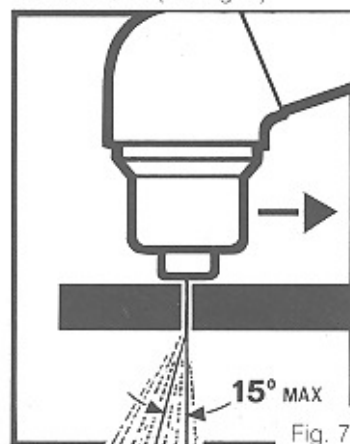
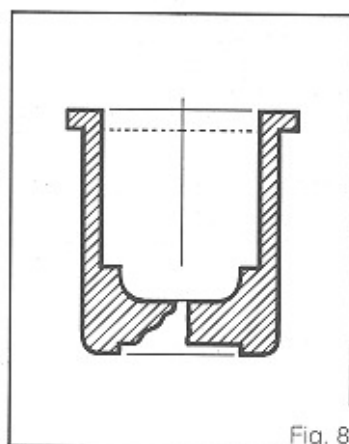
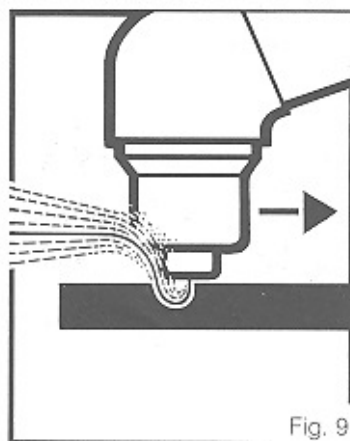

Fig. 7
Fig. 8
Fig. 9
- high speed. Always ensure that arc fully goes through the workpiece to be cut and that its inclination is never higher than  $10 \div 15^\circ$  (see fig. 7). This will prevent misuse of nozzle (see fig. 8) as well as burnings to nozzle holder (see fig. 9).